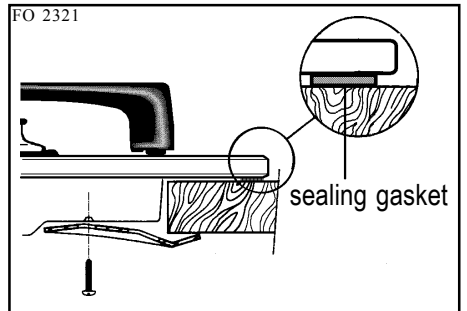

Fig. 3
- 4) Fix the hob with the relevant fixing clamps and screws(see Fig. 3). When the screws have been tightened, the excess seal can be removed.